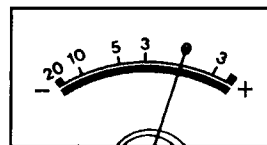

Figure E51
- Adjust VR41014 so that needle of Audio level CH2 Meter reaches "0 ± 0.5 " as shown in Figure E51.